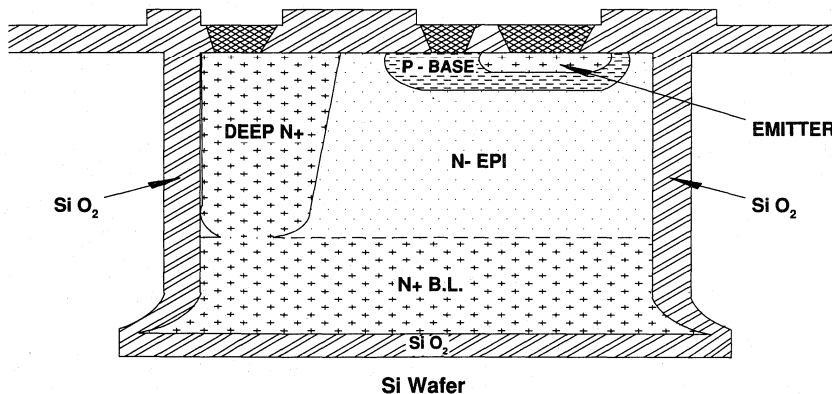

Figure 1. NPN Transistor
- The key fabrication process used at Silicon General for radiation hardening is a proprietary process called *TISER* (See figure 1). The acronym stands for Trench Isolated Selective Epi Regrowth. It is a Silicon On Insulator process that offers many advantages over older isolation techniques, such as Dielectric Isolation. *TISER* is used in any circuit design requiring low photo current generation or latch-up free operating during a Gamma Dot event.